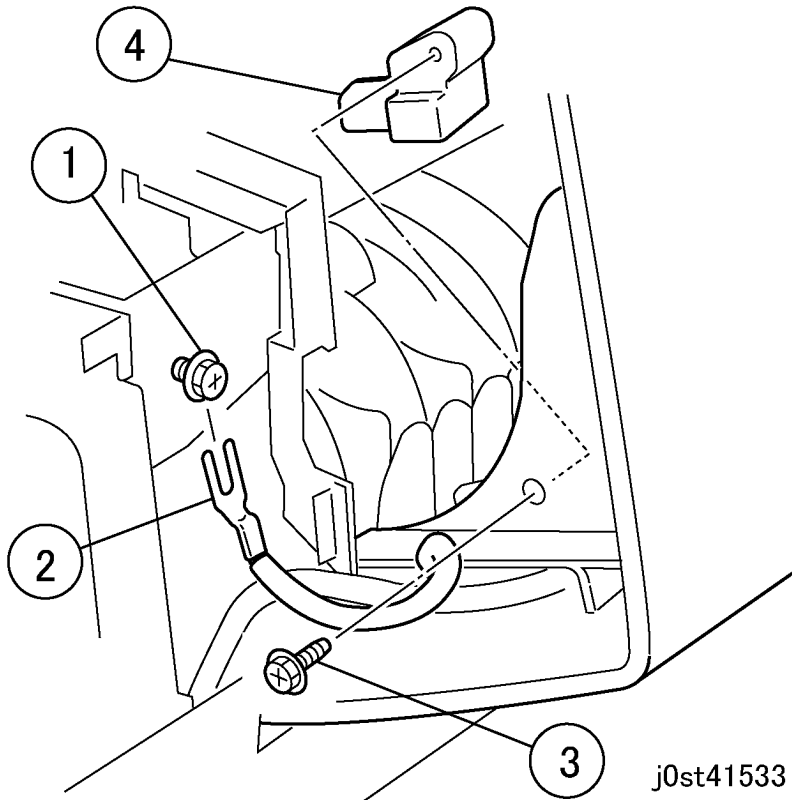

Figure 2 Removing the Harness Guide (j0st41533)
4. Remove the Harness Guide. (Figure 2)